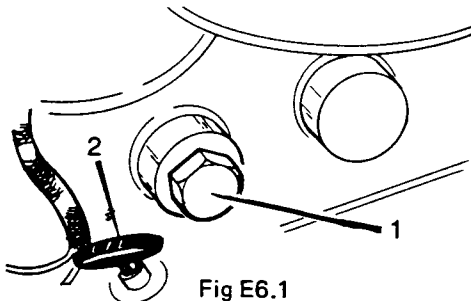
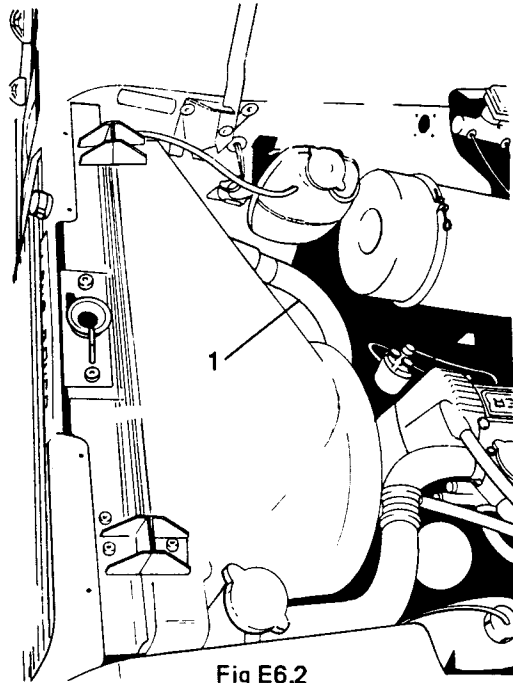

Fig E6.1
Fig E6.2
- (2) Refer to Fig E6.1. Open the cylinder block drain plug (1) (close to the dipstick (2)).
- (3) Refer to Fig E6.2. Remove the lower radiator hose (1) at the radiator.
- (4) Allow all water to drain from the system.
- (5) Refit and tighten the drain plug ((1) on Fig E6.1). Refit the lower radiator hose ((1) on Fig E6.2).
- (6) Refill the radiator with the correct water and inhibitor solution, add antifreeze if required and replace the filler cap.
- (7) Run the engine for a few minutes, then switch off and check the water level. Top up if necessary to 12 to 19 mm below the filler neck.